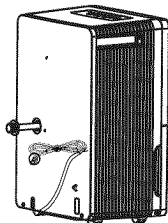

Figure 19
- Wrap the cord and bundle it with the band (Fig.19).